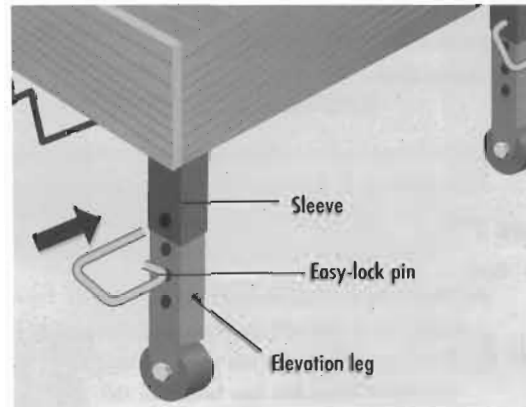

Figure 2
4. Align the holes in the leg and the sleeve. Insert the straight end of an easy-lock pin completely through the holes (Figure 2). Be sure the pin extends through both sides of the front-elevation leg and sleeve.